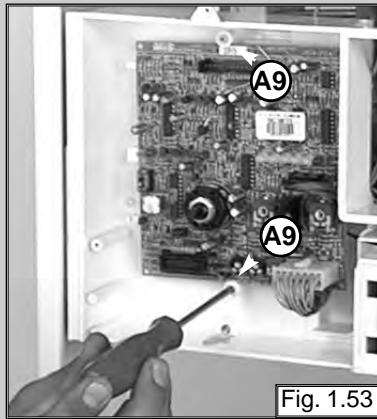

Fig. 1.53
7. To remove the 24V P.C.B.: remove the electrical plug connectors and screws "A9" (see fig. 1.53);